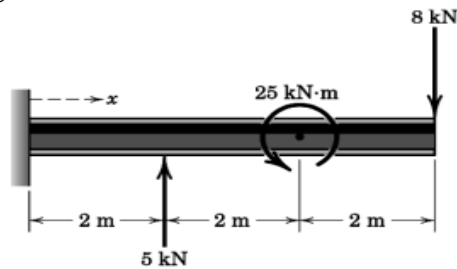

Figure.2
- 3.a) Determine and locate the resultant R of the two forces and one couple acting on the I-beam as shown in figure.2